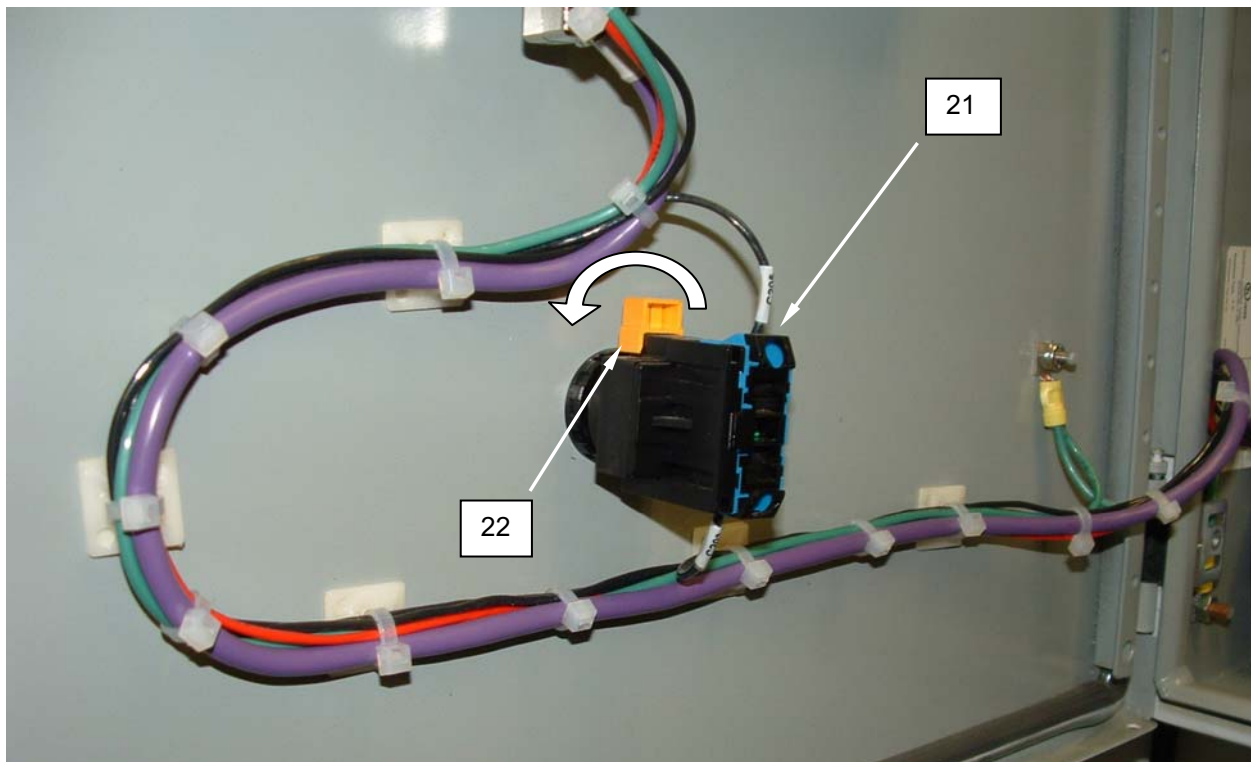

Figure 15. Replace the Emergency Stop.
3. Tag and disconnect wiring from switch (**Figure 15, Item 21**).
4. Rotate switch retainer (**Figure 15, Item 22**) to the left and remove switch (**Figure 15, Item 21**).
5. Install replacement switch (**Figure 15, Item 21**), and secure with retainer by sliding it slightly to the right (**Figure 15, Item 22**).